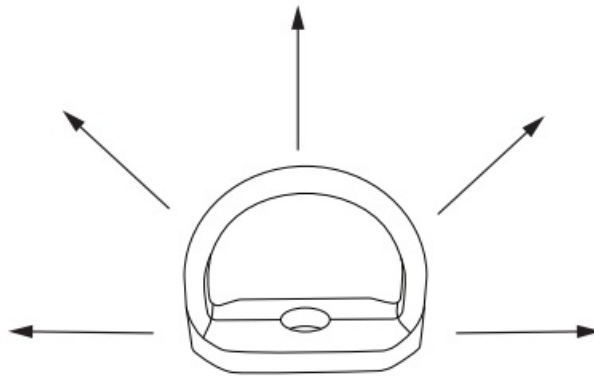

Figure 2 – Approved Load Directions
The Ironworkers Anchor may be attached in a variety of orientations depending on the application at hand. Figure 2 below illustrates the approved load directions of the Ironworkers Anchor.
4. Orient the D-ring to ensure that the predicted load direction is in line with the major axis of the D-ring. See Figure 2. Do not cross load the D-ring. Avoid orientations that cross load or transversely load connectors.